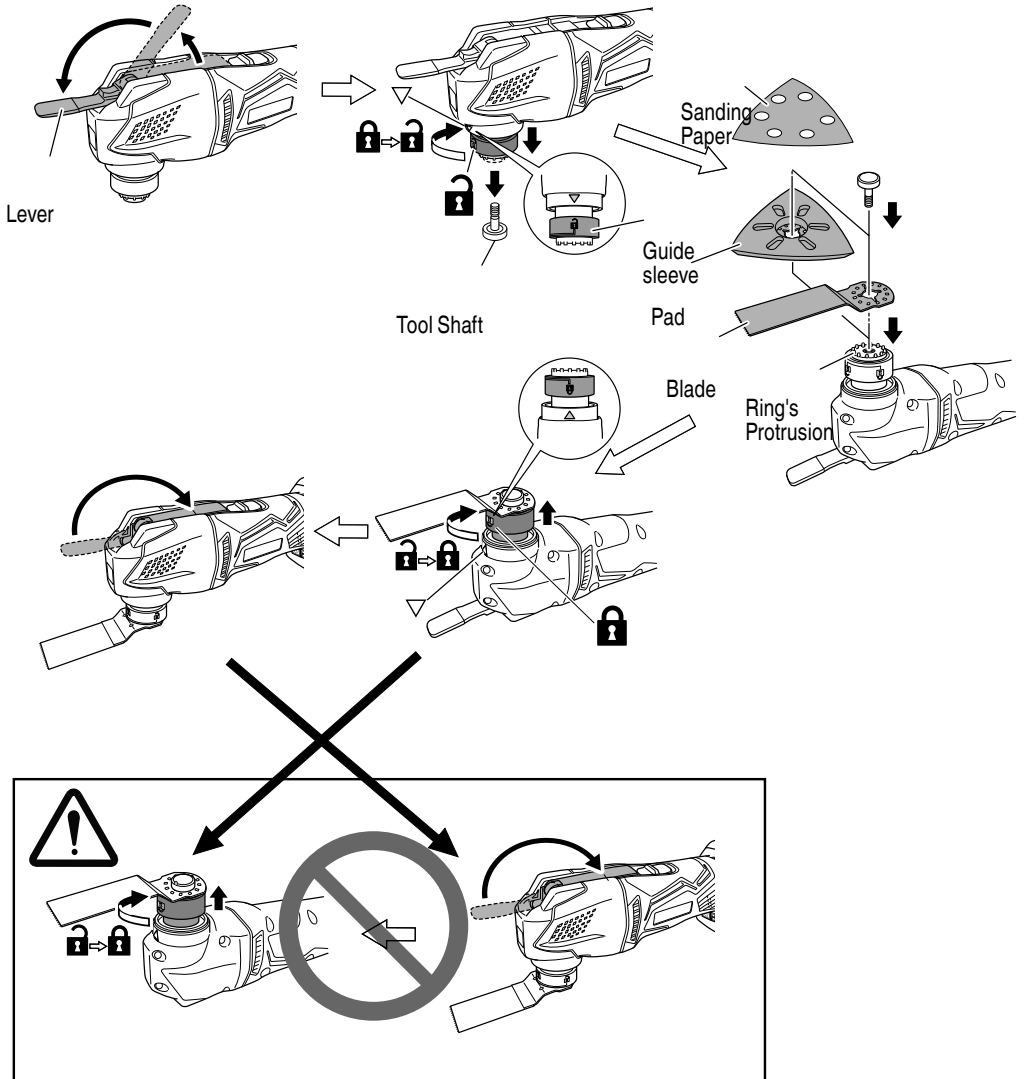

Fig. 6
5. Changing application tools (Fig. 6)